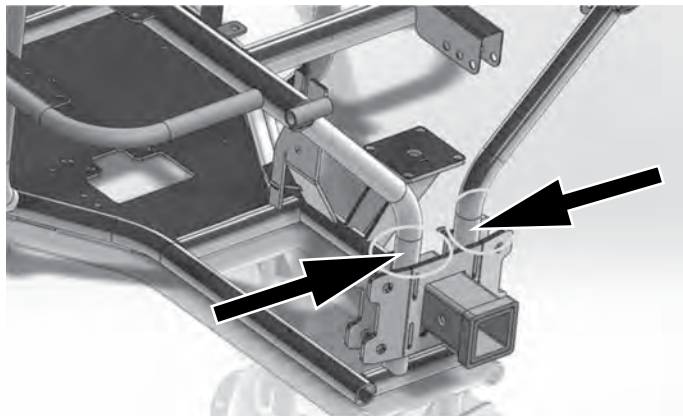

figure 4.19
3. Tie down rear of unit above suspension bracket as shown in fig 4.19